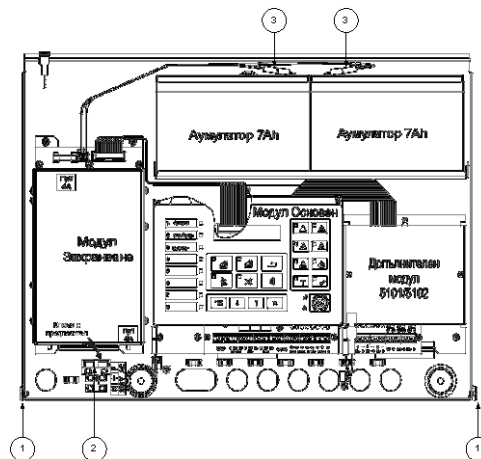

Fig.5
- 2.2. Unscrew the two screws from the cover of the fire control panel pos.1 (Fig.5).
- 2.4. Remove the fuse Fu1 from the socket pos.2 (Fig.5).
- 2.5. Disconnect the cables from the terminals of the back up batteries pos.3. (Fig.5).
2.8. Put back Fuse Fu1 to the socket pos.2 (Fig.5).
2.9. Connect the cables to the terminals of the back up batteries pos.3 (Fig.5).
2.11. Screw in the screws of the fire control panel cover pos.1 (Fig.5).